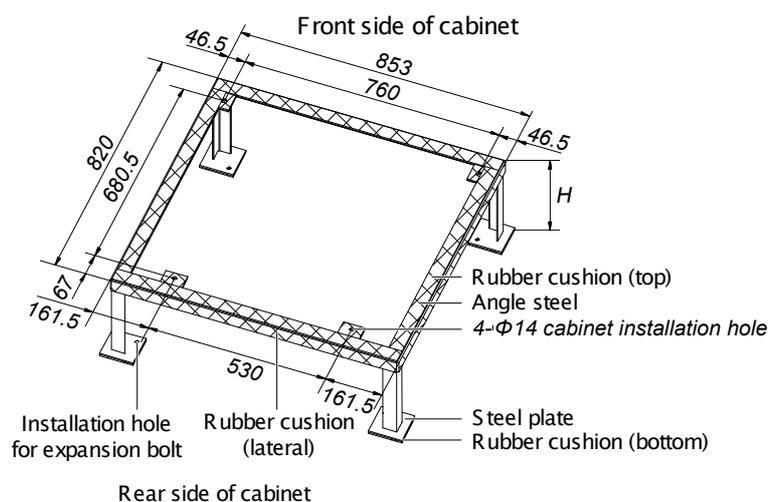
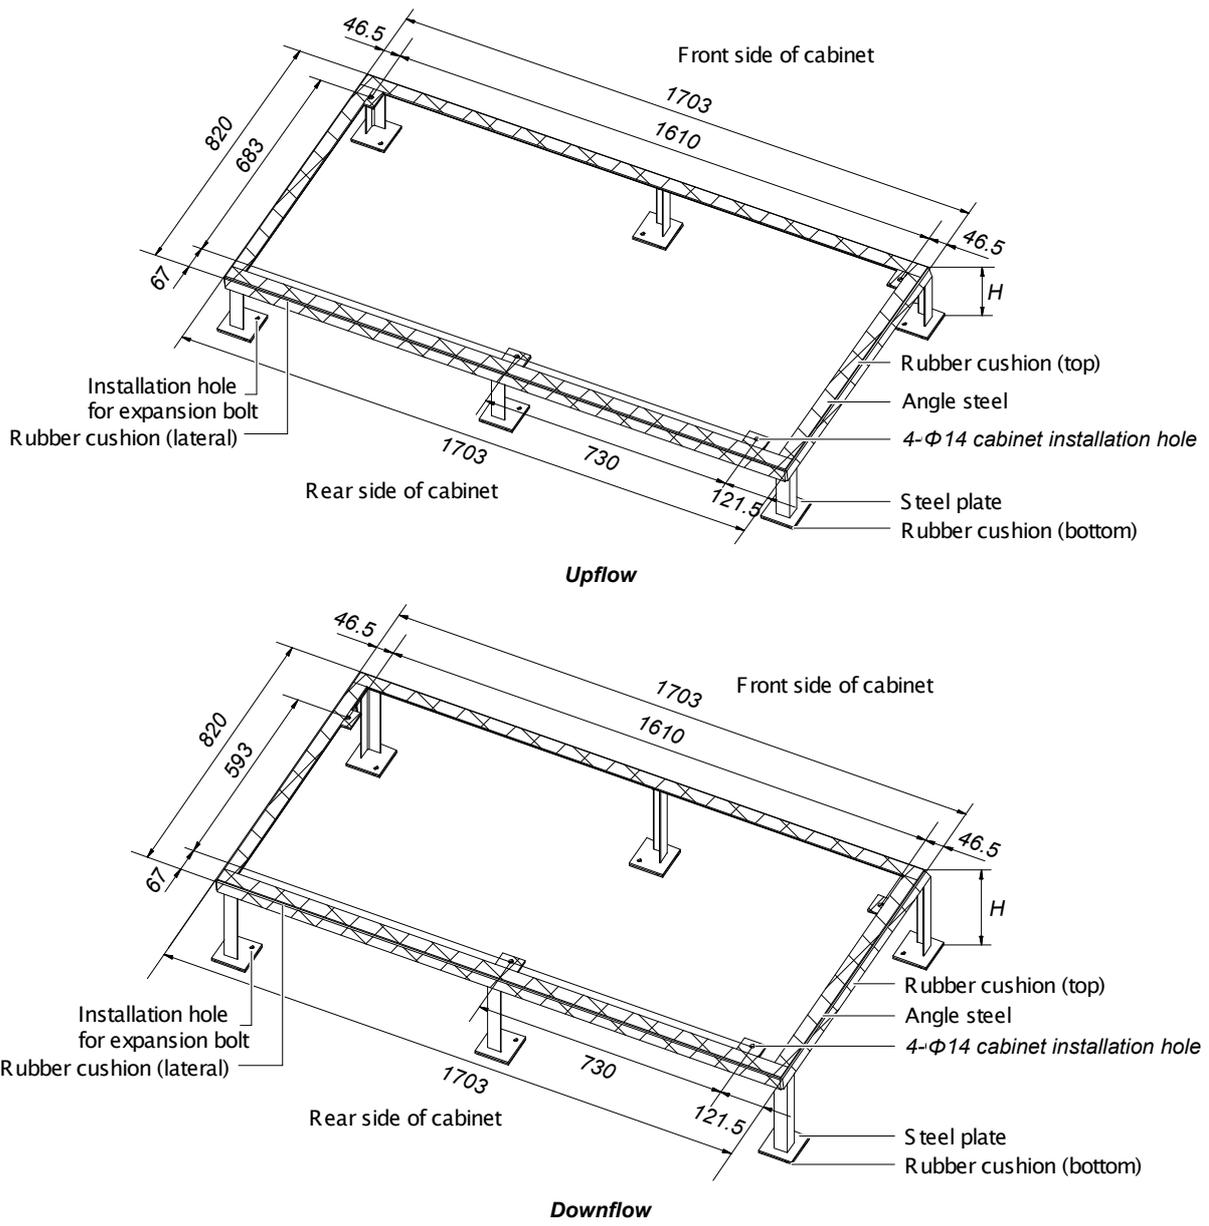
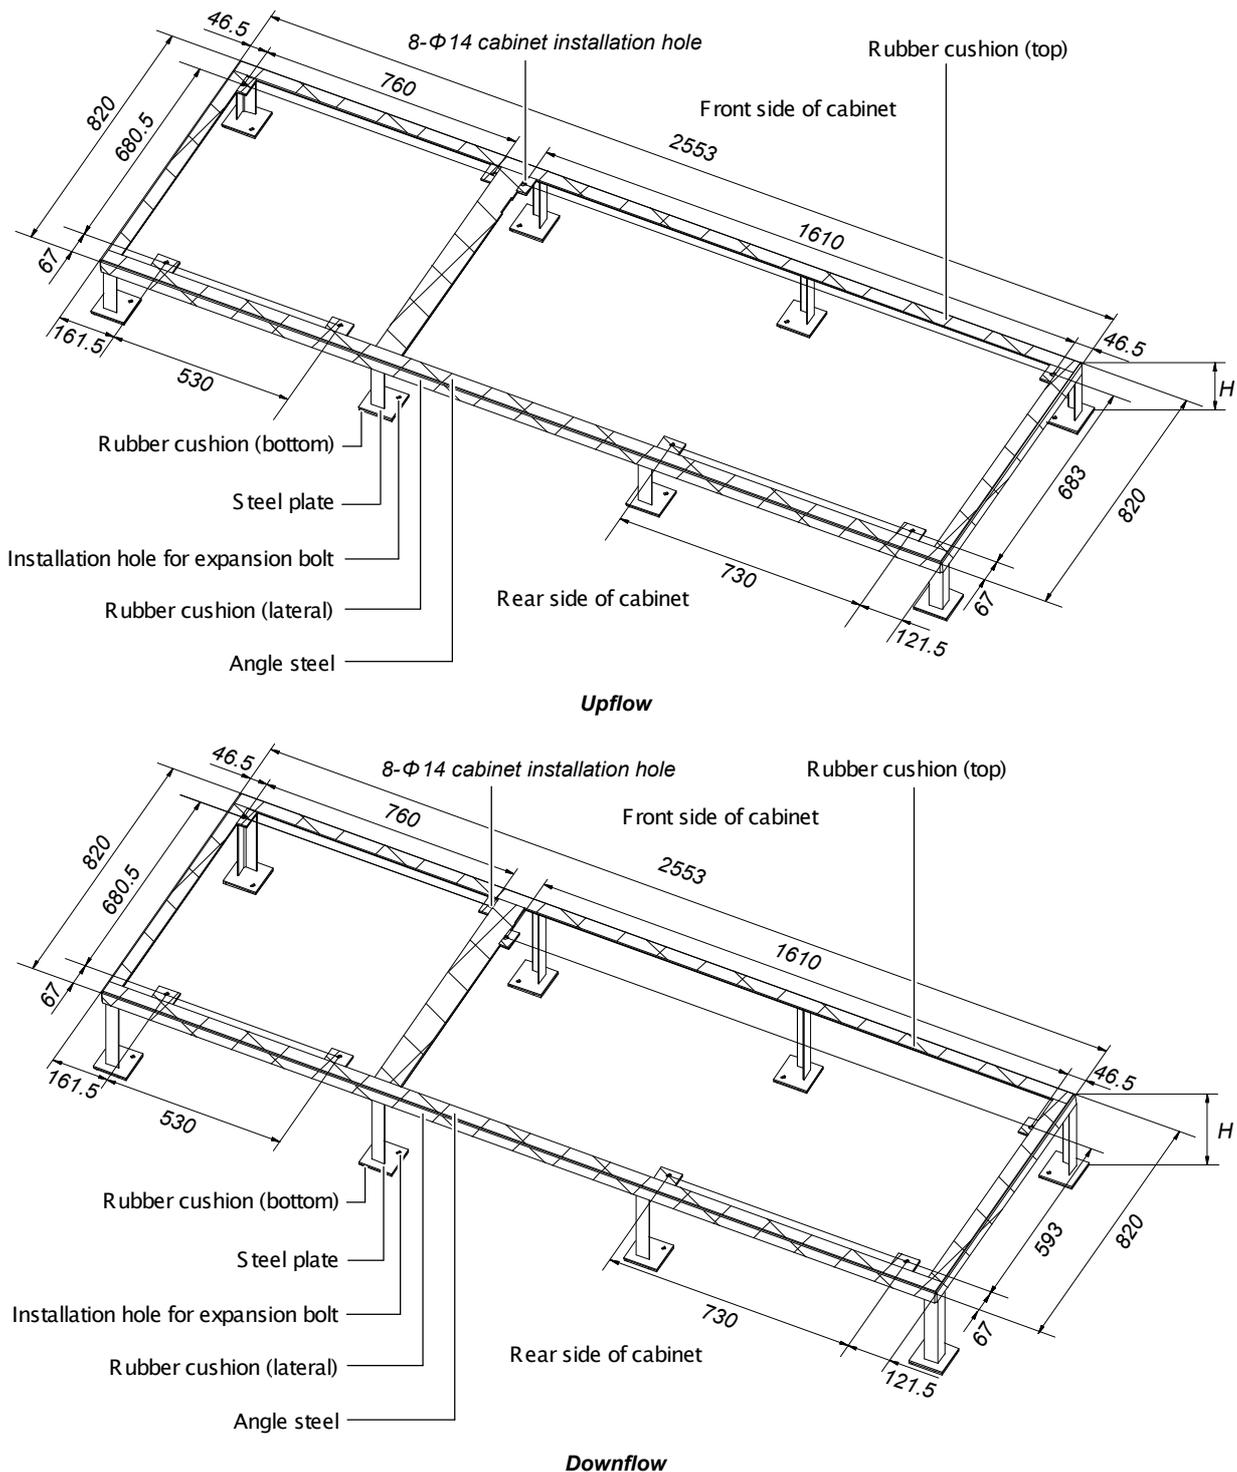

Figure 2-18 Mounting base of one-bay series (unit: mm)
Figure 2-19 Mounting base of two-bay series (unit: mm)
Figure 2-20 Mounting base of three-bay series (unit: mm)
1. Make the mounting base according to the dimensions in Figure 2-18, Figure 2-19 and Figure 2-20 and the requirements in Table 2-3. You can make it yourself or contact Emerson Network Power Co., Ltd. for non-standard production.
2. Lay a layer of rubber cushion on the top, lateral of mounting base and on the bottom of the steel plate respectively. See Figure 2-18, Figure 2-19 and Figure 2-20 for their positions and see Table 2-3 for the thickness.